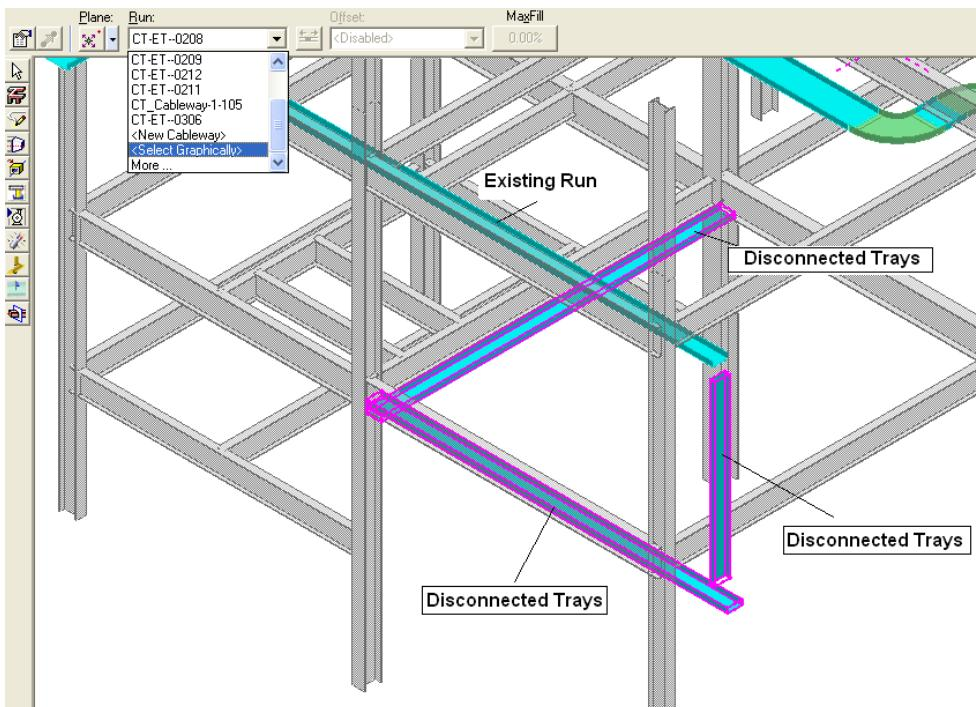

Figure 14: Routed Second Cableway
39. Group the three trays into the same cableway run as show in Figure 14. To do this, select all three straight features (disconnected trays) and use the “Select Graphically” option in the edit ribbon to select the existing run you want to group.